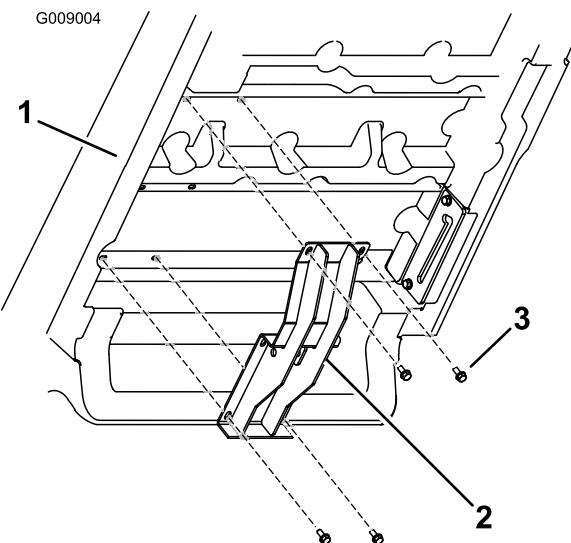

Figure 3
1. Remove the screws from the braces on the underside of the box in the positions shown in (Figure 3).
2. Mount the upper lift bracket to the underside of the box with 4 flange head screws (5/16 x 3/4 inch) from loose parts and removed previously. Position the bracket as shown in Figure 3.